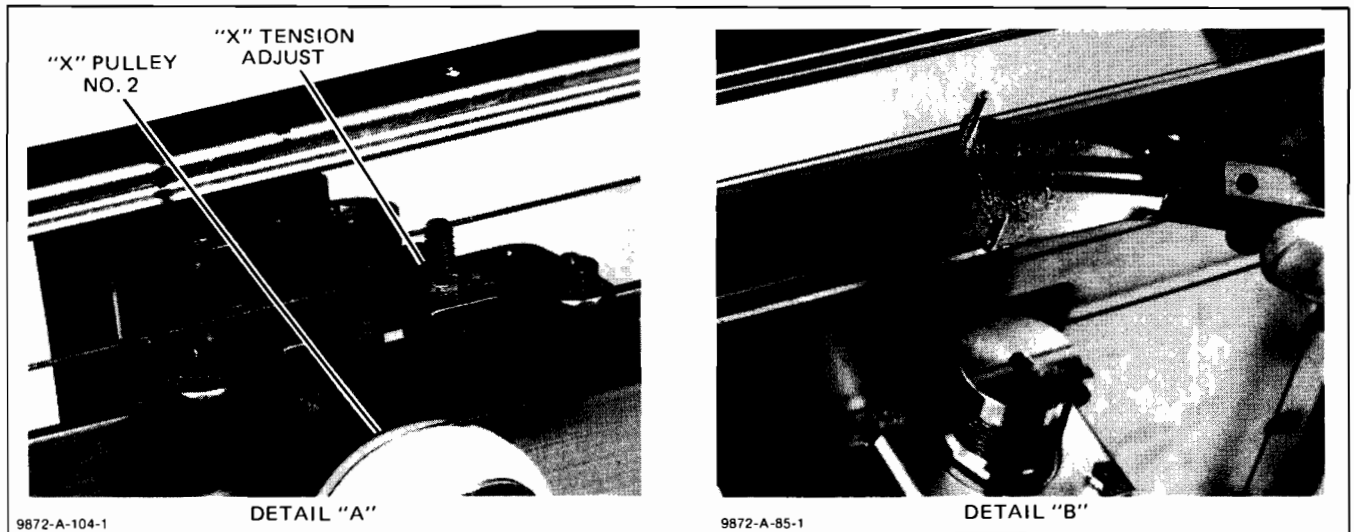

Figure 6-24. X Tension Adjust Nut
- c. Loosen, but do not remove, the X-tension adjusting nut. See Figure 6-24.
- l. Using a gram gauge, adjust the X-tension adjustment nut for 325 ± 25 grams. Refer to Section III of this manual if necessary. See Figure 6-24.
- g. Remove the X-tension adjustment nut, and push the threaded block out of the bracket. See Figure 6-24, Detail A.
- f. Thread the cable end block into the bracket above pulley #1, and install the adjusting nut finger tight. See Figure 6-24, Detail A.